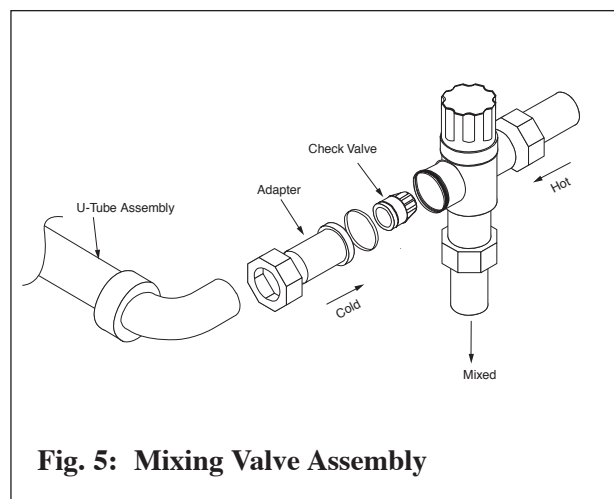

Fig. 5: Mixing Valve Assembly
3. Solder the U-Tube Assembly onto the adapter. (See Fig. 5)